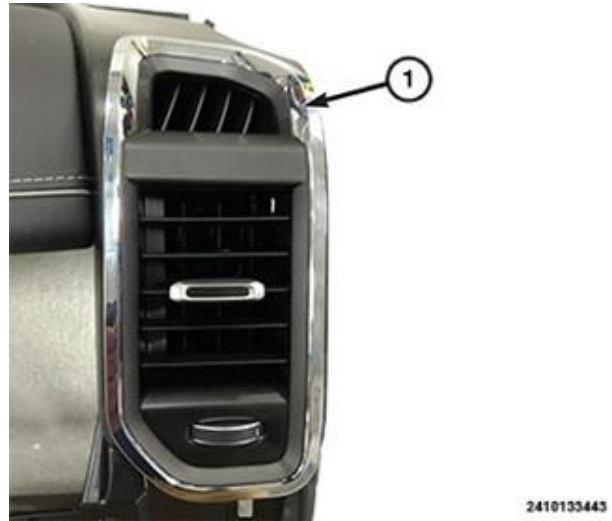

Figure 10 – Right Side Air Outlet Vent
18. Using a trim stick or equivalent, remove the right side air outlet vent (1) (Figure 10).
43. Position the air outlet vent (1) to the instrument cluster bezel and engage the retaining clips. Be certain the retainers are fully engaged (Figure 10).